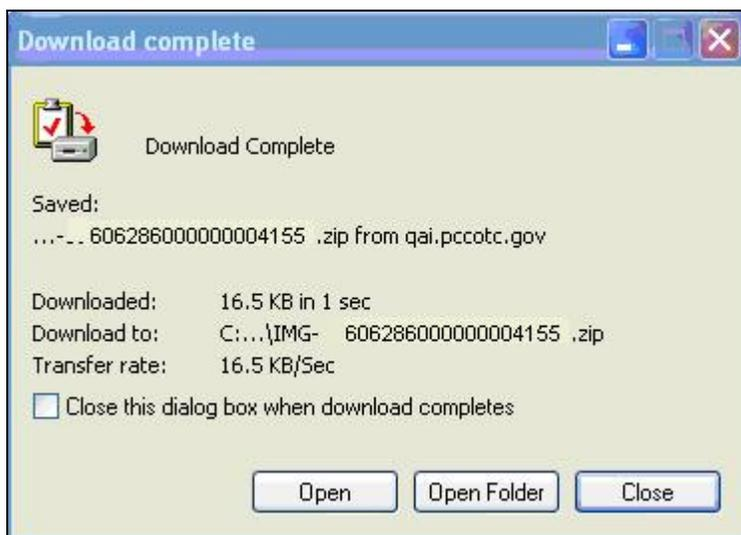

Figure 5.32.5
2. Click the down arrow in the 'Save in' field to navigate to the drive and folder on your computer's hard drive or LAN where the file should be saved. Choose the default file name or type a new file name in the 'File name' field and click the **'Save'** button. A 'Download Complete' window will appear as displayed in Figure 5.32.5.